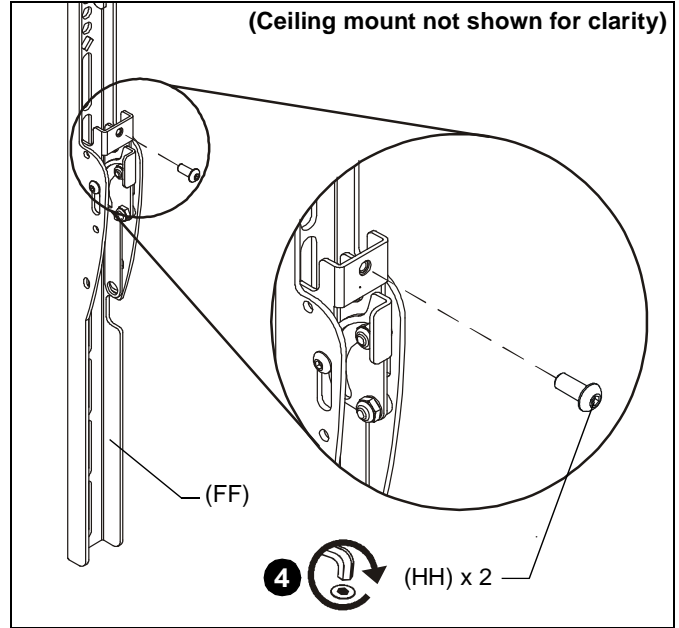

Figure 9
4. Fasten bracket against ceiling mount extrusion using one 10-24 x 5/8" button head cap screw (HH). (See Figure 9)